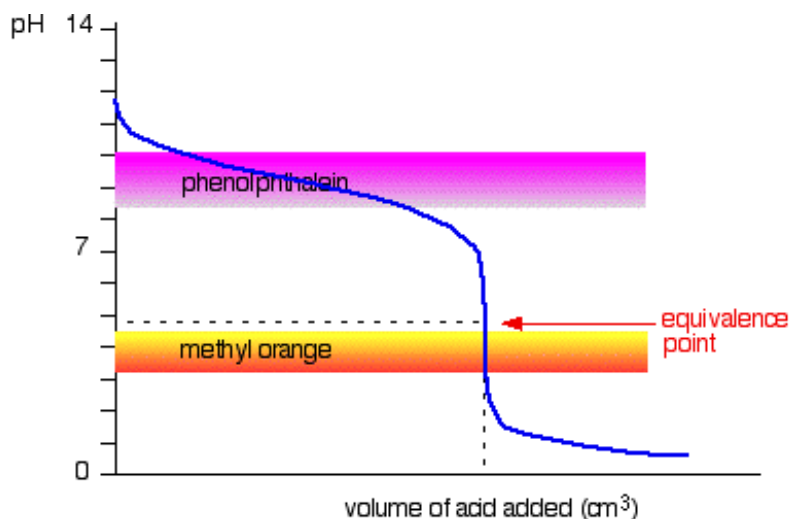

Figure 1: Generic Titration Curve of a weak base
- In many titrations, the pH changes very markedly near the equivalence point (when moles of acid = moles of base). When this sudden pH change occurs, using an indicator that changes color at a pH near the equivalence point can clearly signal a titration endpoint. However, not every indicator will work. In the example below (Figure 1), phenolphthalein has a color change at a pH that is too high above the equivalence point, and so it would indicate a false endpoint well before the equivalence point is reached.